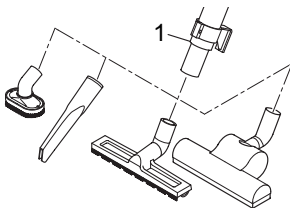

Fig. 9
2. Remove the nozzle from the telescopic tube (Fig. 9/1).
3. Push the desired nozzle onto the lower end of the telescopic tube (Fig. 9).